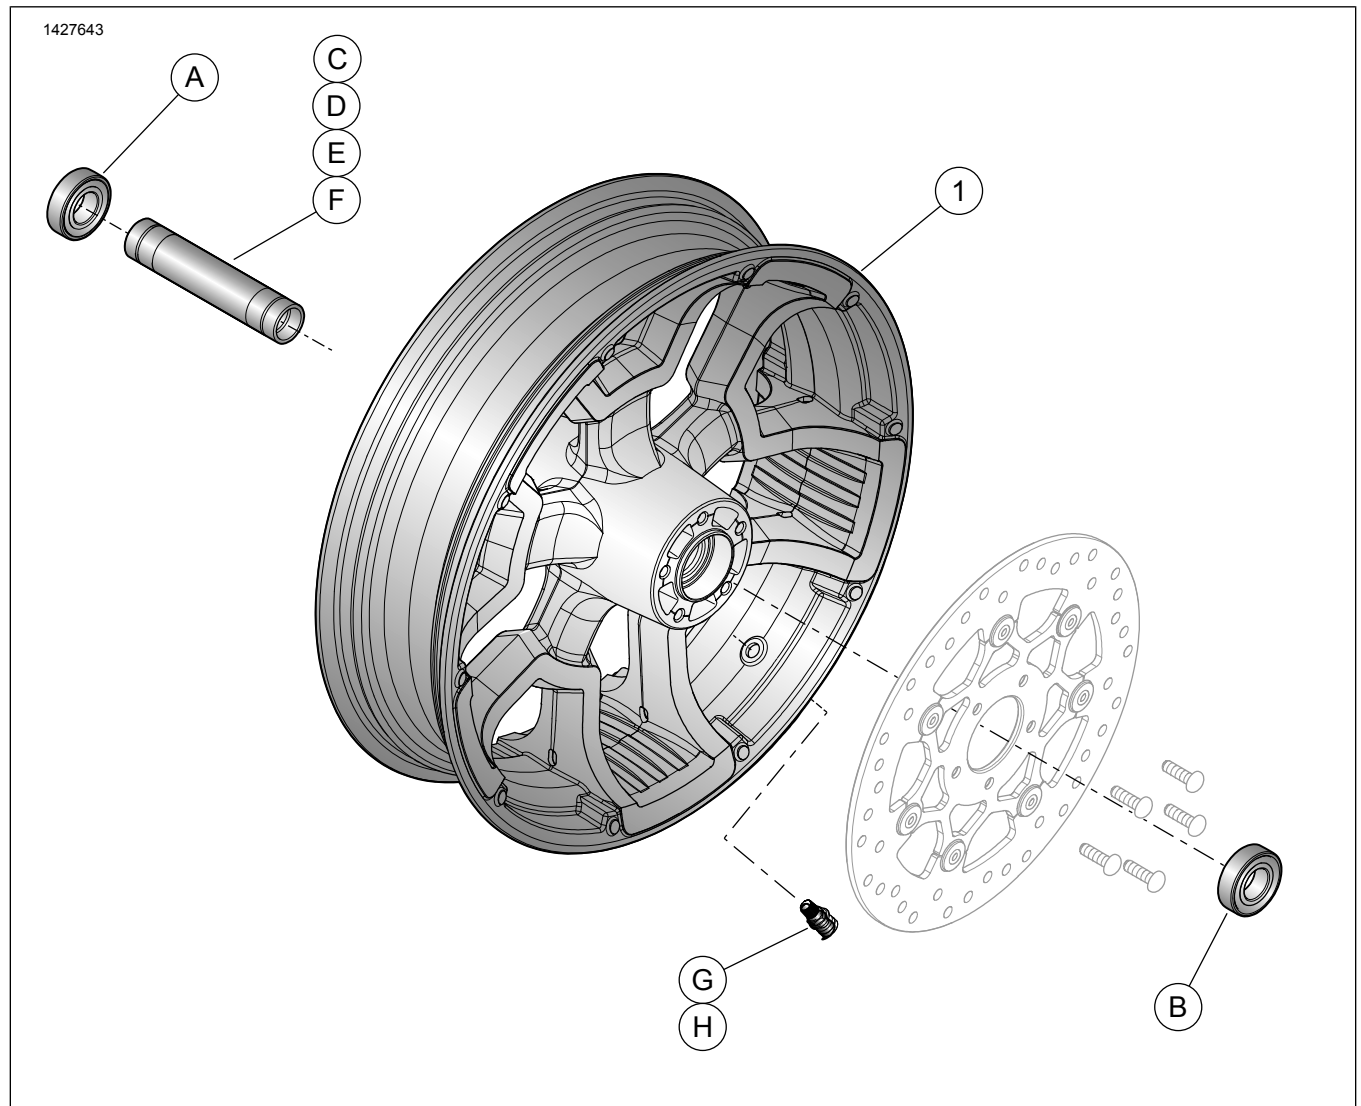

Figure 2. Service Parts: Front Wheel Kit
This kit includes a custom wheel only. See Figure 2 and Table 3 for kit contents.
2. See Figure 2. Install valve stem assembly on wheel. See the service manual.